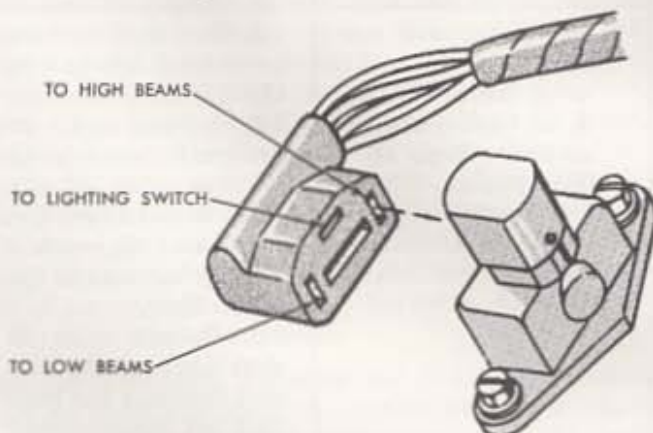

Fig. 17—Beam Selector Switch Disconnect
- 4-4. Leave the light switch ON and check between a good ground and the hot terminal on the headlight switch (Fig. 17). If there is power, the switch is defective.